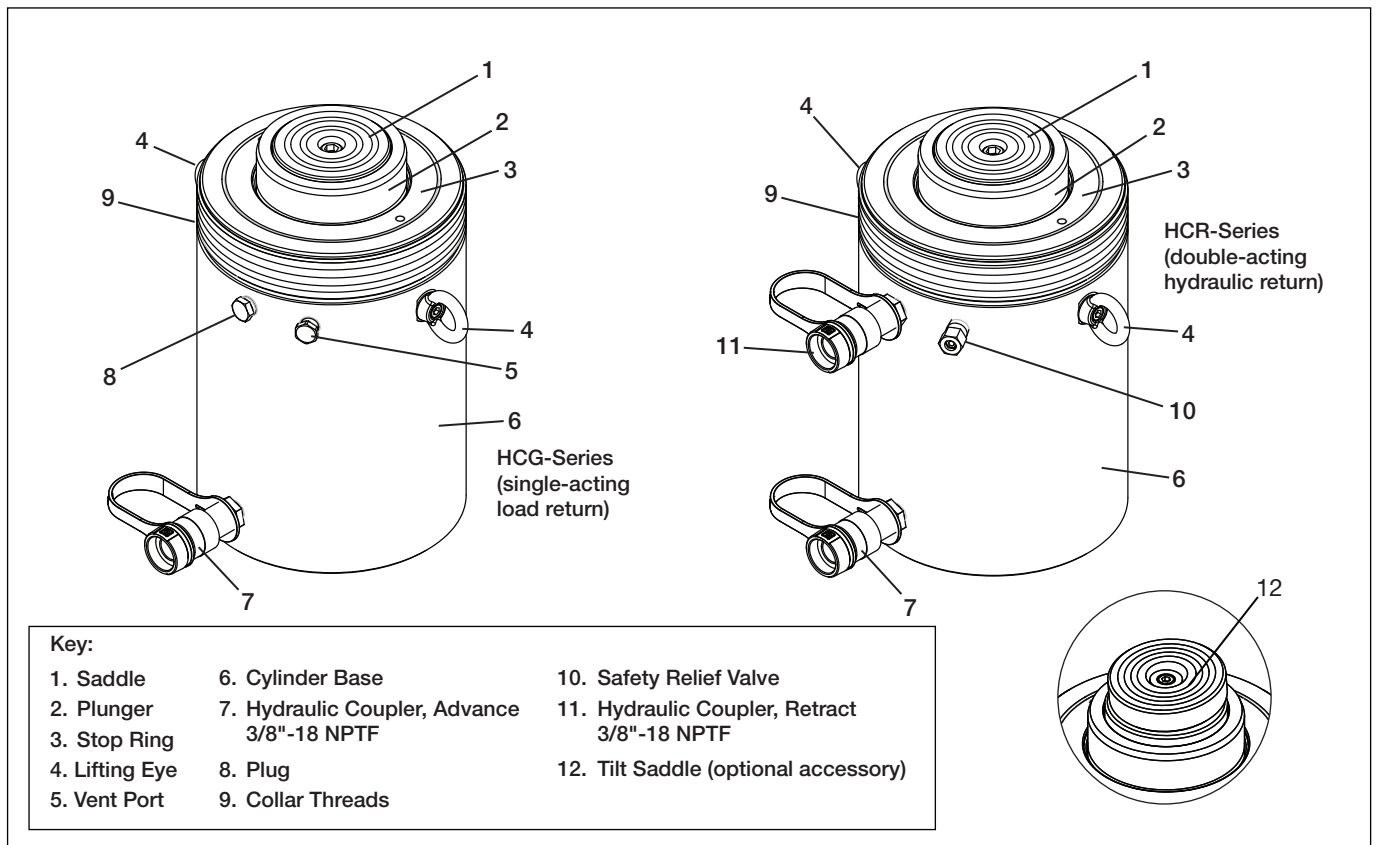

Figure 1, Major Features and Components, HCG-Series and HCR-Series Hydraulic Cylinders (Typical)
Refer to Figure 1, items 7 and 11 for locations.
On HCG-Series models, a built-in vent port provides vacuum relief and pressure equalization for the cylinder plunger cavity. The vent port is located near the top of the cylinder base. See Figure 1, item 5.
HCR-Series models include a retract side safety relief valve. It is located near the top of the cylinder base. See Figure 1, item 10.